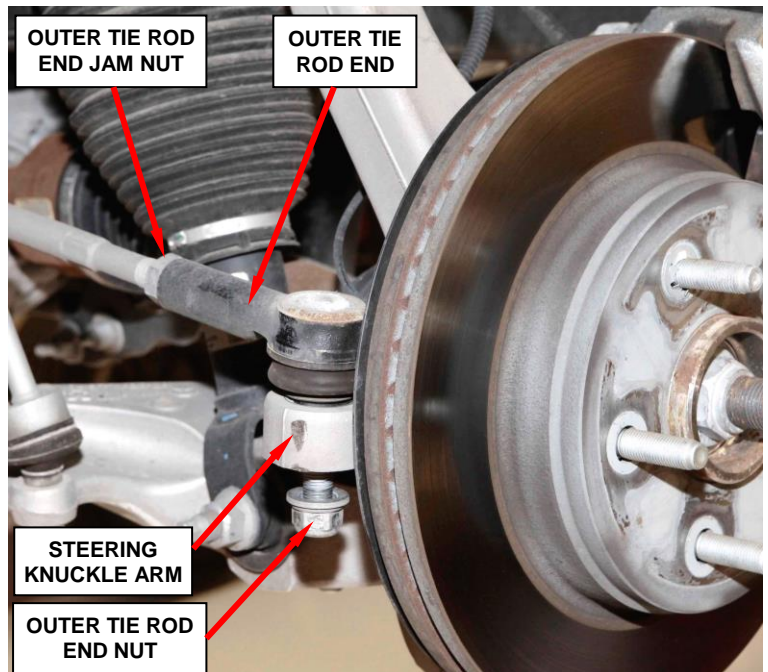

Figure 1 – Outer Tie Rod End Nut (left side shown)
5. **For 4x2 vehicles**, loosen the left outer tie rod end jam nut (Figure 1).
6. Remove and save the right and left side outer tie rod nuts (Figure 1).